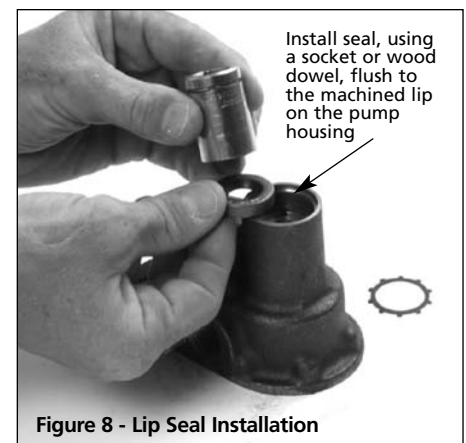

Figure 8 - Lip Seal Installation
3. Install new lip seal by pushing new seal into drive shaft housing with a wood dowel or socket, flush to the machined lip on the pump housing. Replace retaining ring (See Figure 8).